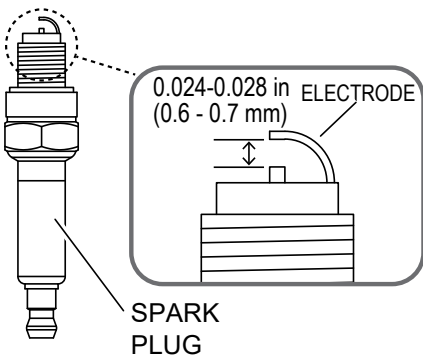

Figure 38. Spark Plug Gap
9. Check the gap between the electrodes (spark gap), and adjust it if not within the following measurement (Figure 38).